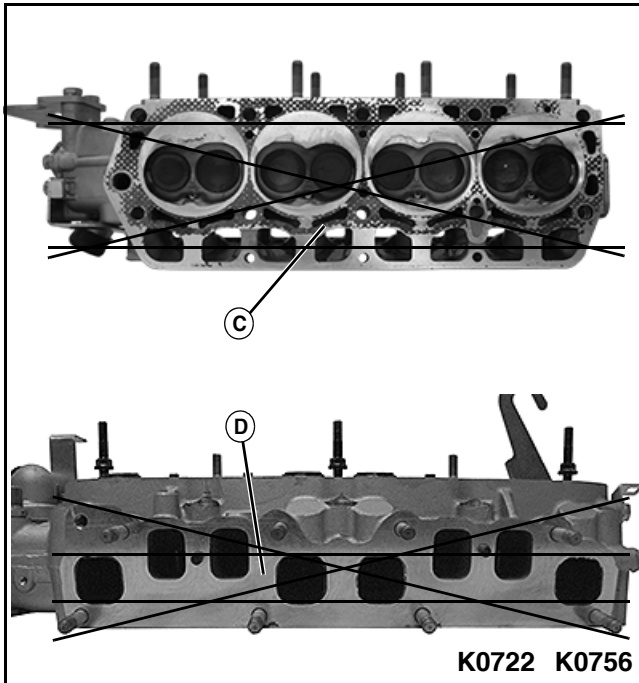

Figure 3-122
4. Inspect cylinder head for warpage at cylinder block side (C) and at intake/exhaust manifold side (D) using a straightedge and feeler gauge. **See Figure 3-122.**